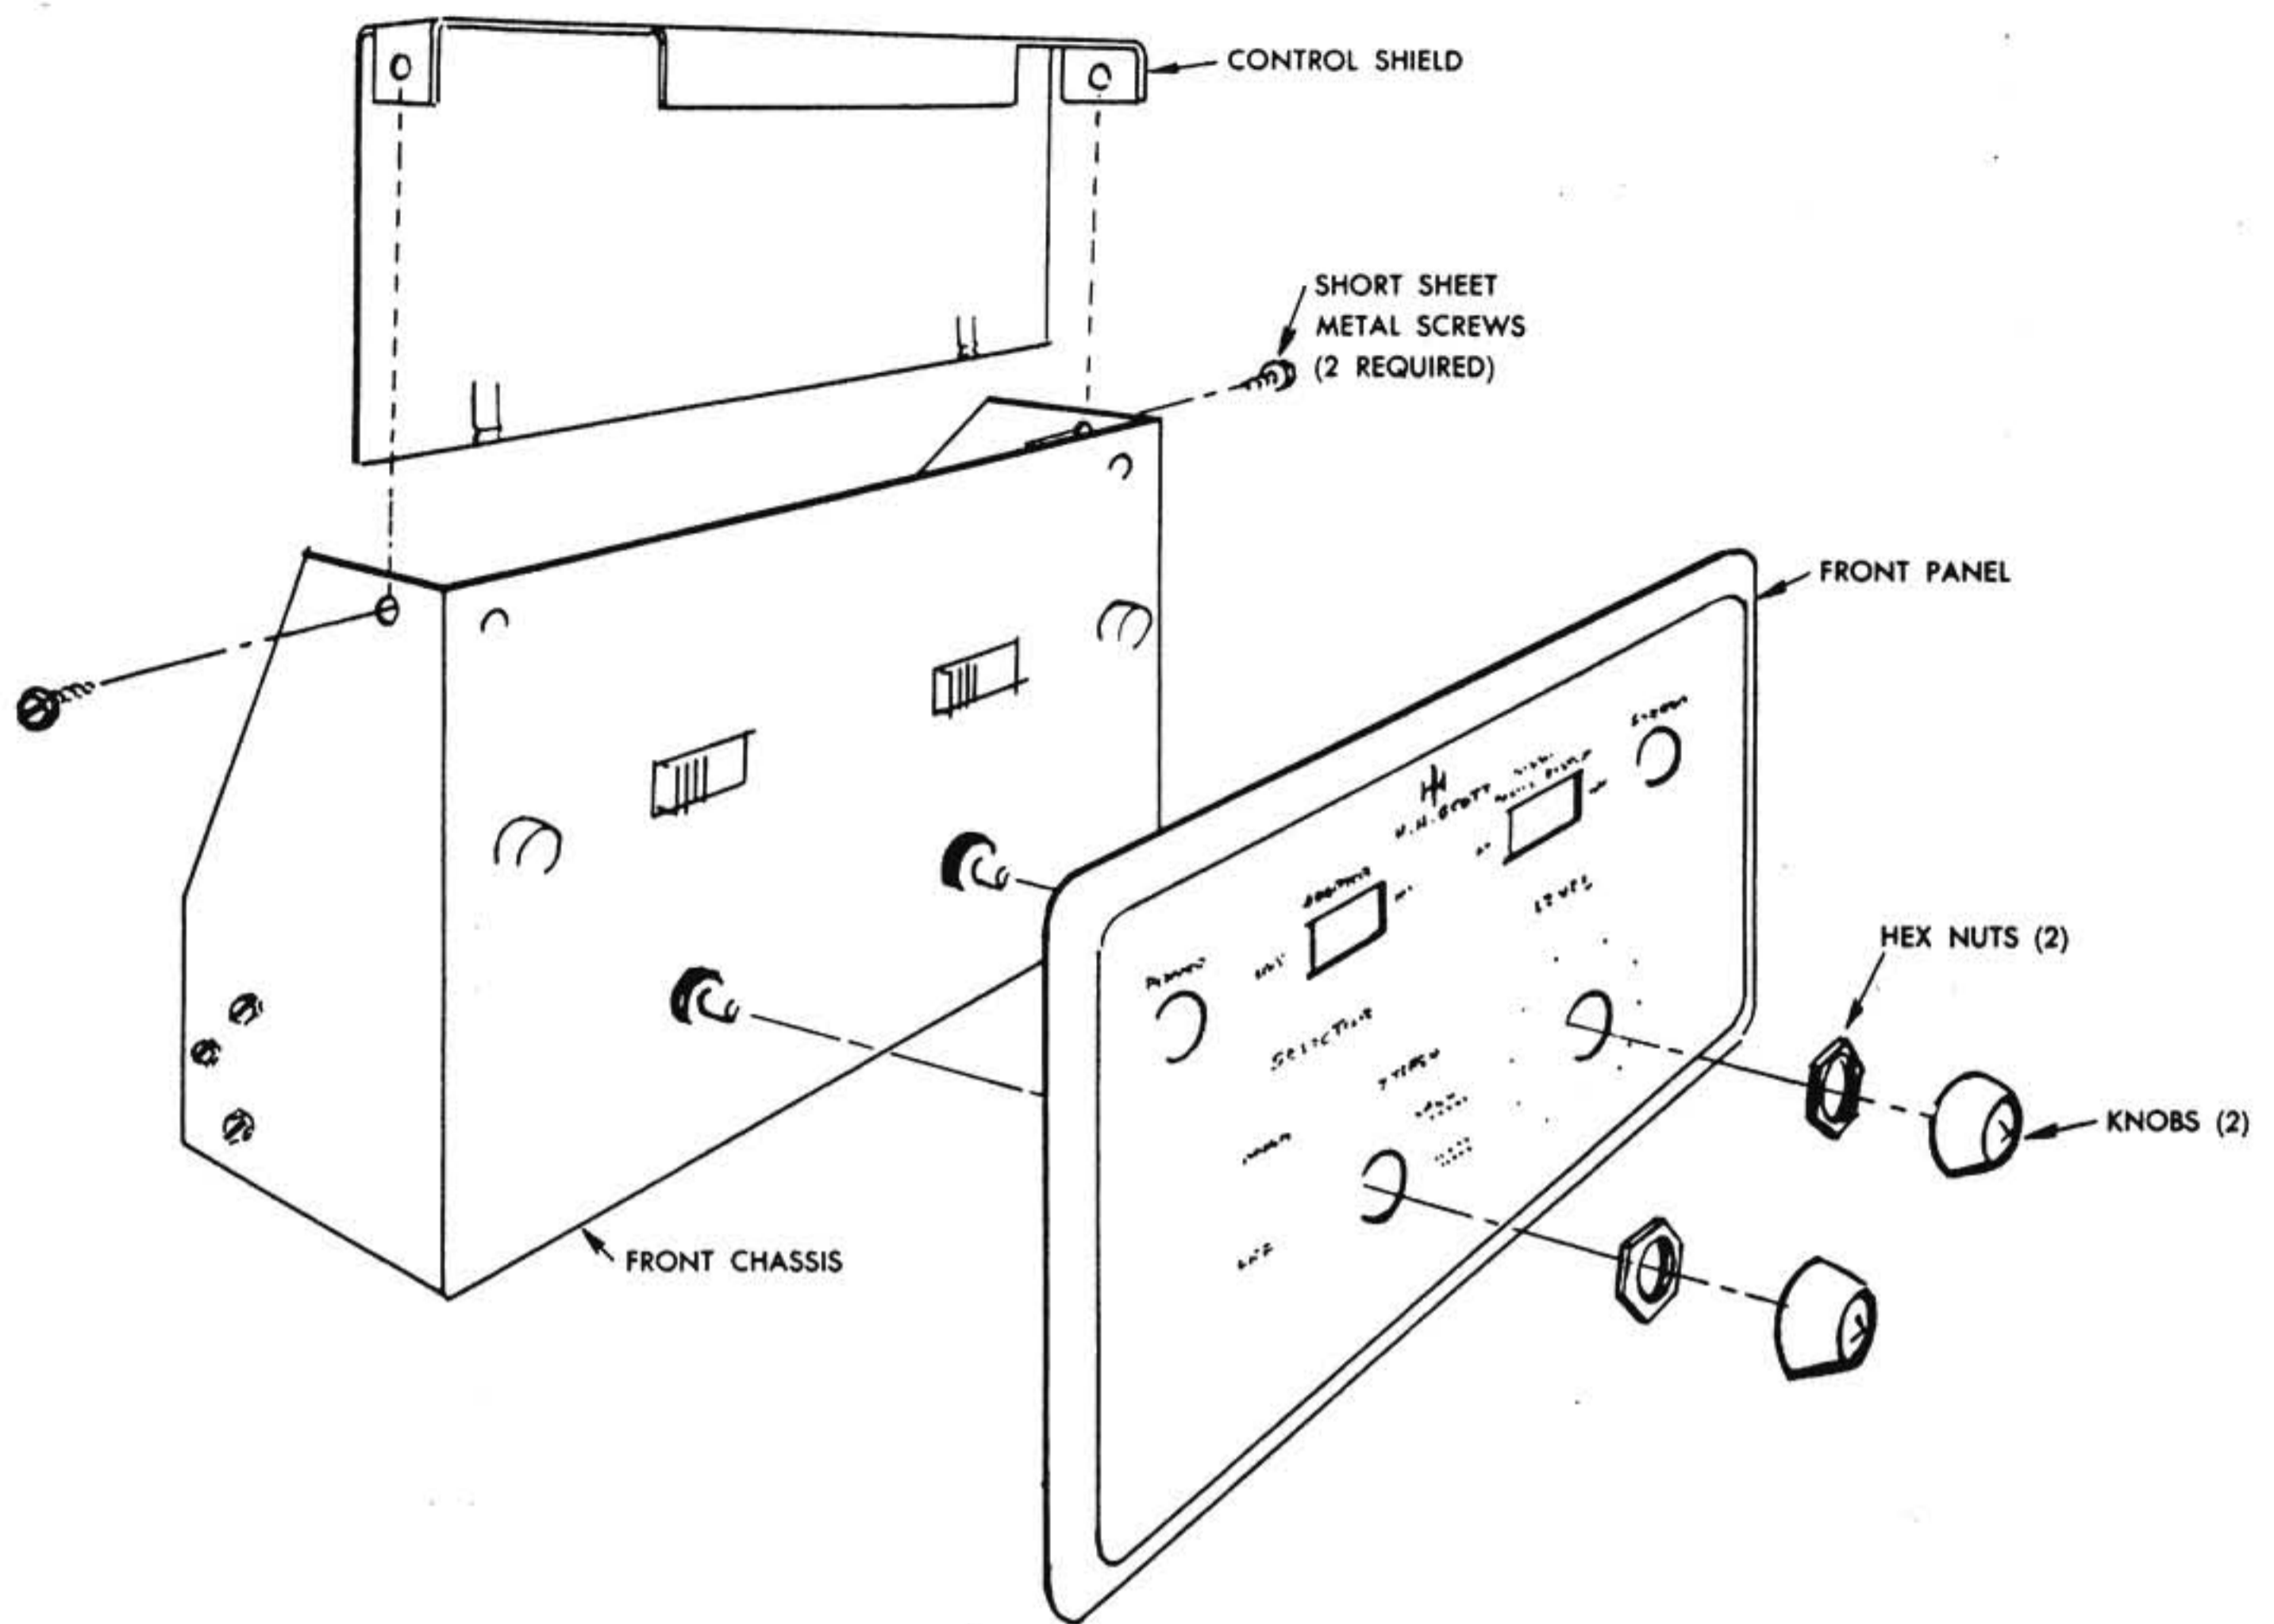

FIGURE 6
- A3-2 Remove the hex nuts from the shafts of the controls. Place the front panel over these shafts and replace the hex nuts. (See Figure 6.)
Assemble the control shield with two 6x1/4" sheet metal screws. (See Figure 6.)